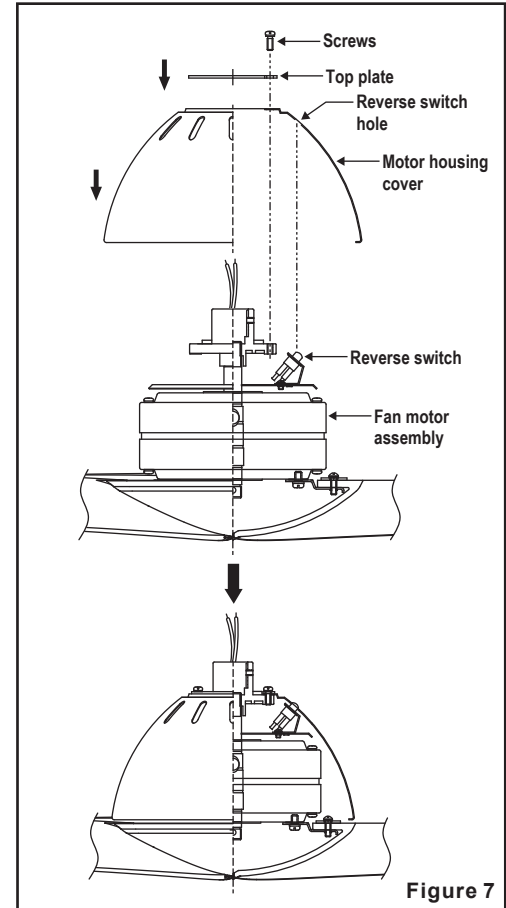

Figure 7
Step 3. Reinstall the top plate and the motor housing cover onto the fan motor assembly by using the top plate screws (Fig. 7). **NOTE:** The reverse switch hole on the motor housing cover must be aligned with the reverse switch before reinstalling the motor housing cover onto the fan motor assembly.